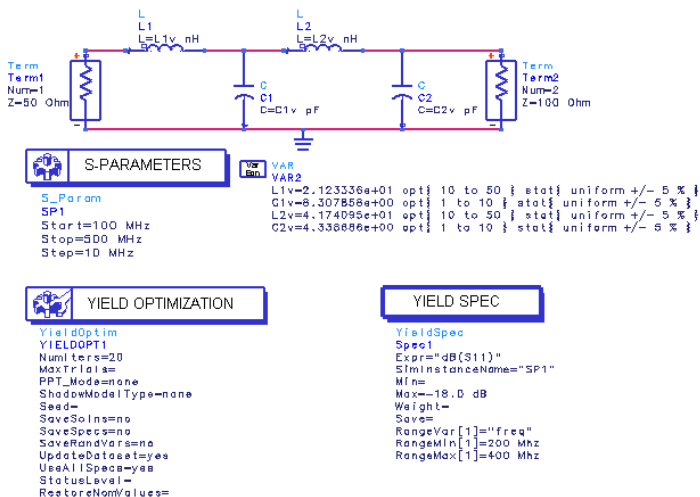

Figure 3-9. Schematic Design with Optimized Values
3. Select **Simulate > Update Optimization Values** to change the nominal values on the schematic to the optimized ones. The results are shown in Figure 3-9.